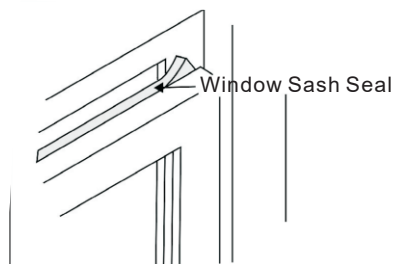

Fig.18
1. Trim sash seal to fit window width. Insert into space between upper and lower sashes (Fig.18).